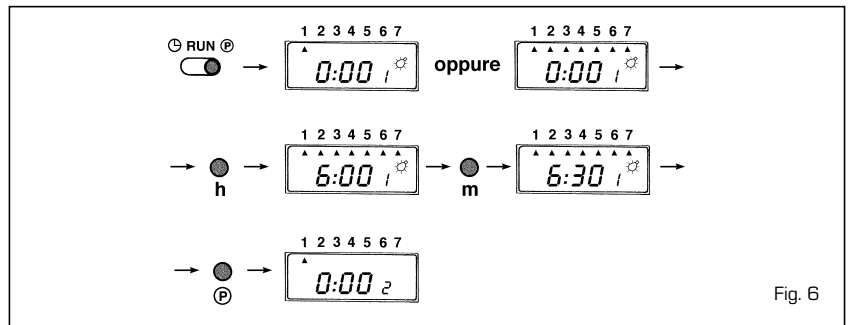

Fig. 6
- **Setting the programme (fig. 6)**